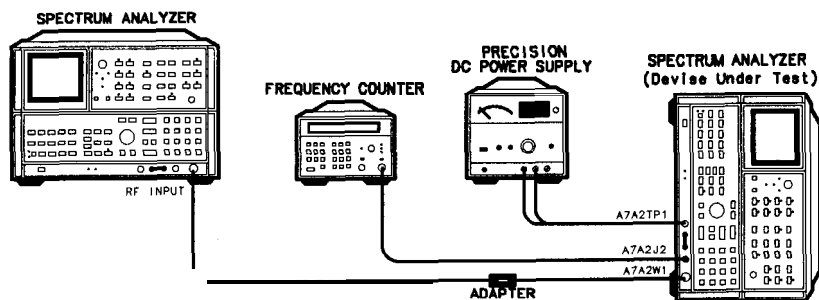

Figure 3-64. 100 MHz VCXO Adjustment Setup
1. Position the spectrum analyzer on its right side as shown in Figure 3-64, and remove the bottom cover.